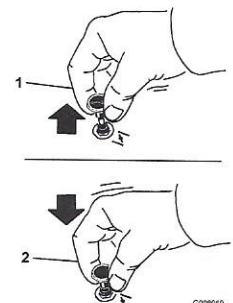

Figure 8
- Pull up the choke knob to engage the choke before using the key switch (Figure 8).
- Push down the choke to disengage the choke after the engine has started (Figure 8).